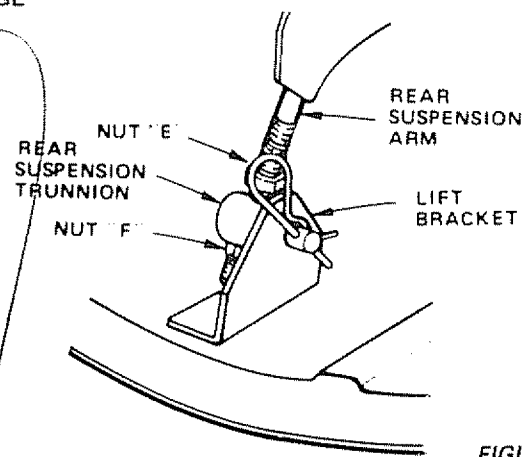

FIGURE 33
- To raise rear of mower, loosen nut "E" on both rear suspension arms (Fig. 33). Screw both nuts "F" up EQUAL NUMBER OF TURNS (Fig. 33).
- To lower rear of mower, loosen nut "F" on both rear suspension arms an EQUAL NUMBER OF TURNS (Fig. 33).